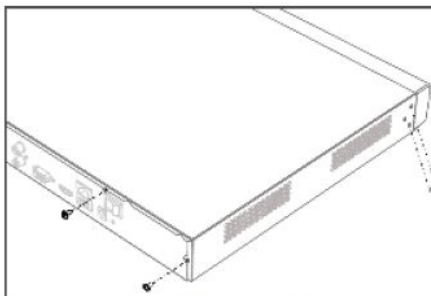

Figure 2-1 Remove Cover
STEP 1 Unfasten screws on each panel to remove the device cover. Refer to Figure 2-1.